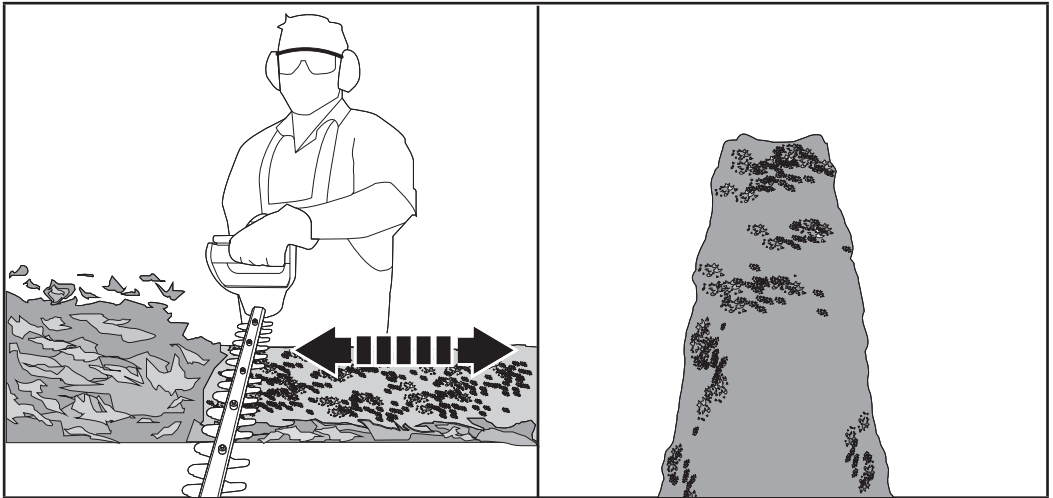

Fig. 7
- Cut in a number of stages to achieve a better result rather than trying to cut in one go if the area being cut is particularly long (Fig. 7). Smaller cuttings will allow for easy composting.
- Hedges should be trimmed in a trapezoid shape (Fig. 7). A trapezoidal cut corresponds to the natural growth of plants and results in optimal hedge growth, as it will expose more light to the lower end of the hedge.